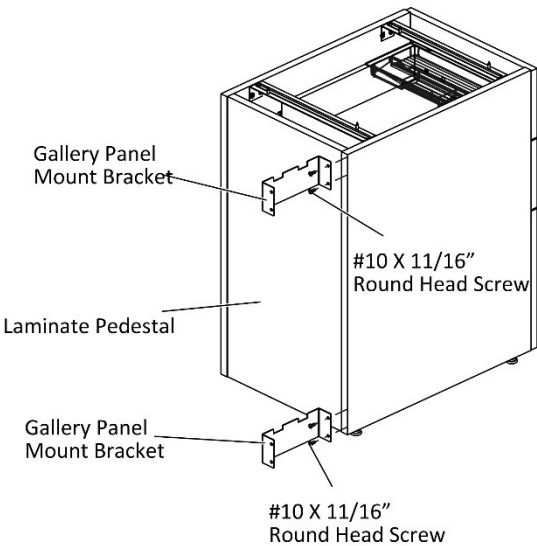

Figure 1
- 1. Position and align the gallery panel mount bracket with the outer top corner of the pedestal, flush with top and parallel to vertical edge of pedestal, (Figure 1).